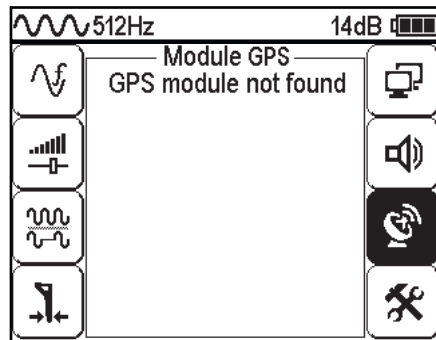

Fig. 2
3. If the module doesn't respond, the receiver shows the message "GPS module not found" (see fig 2)